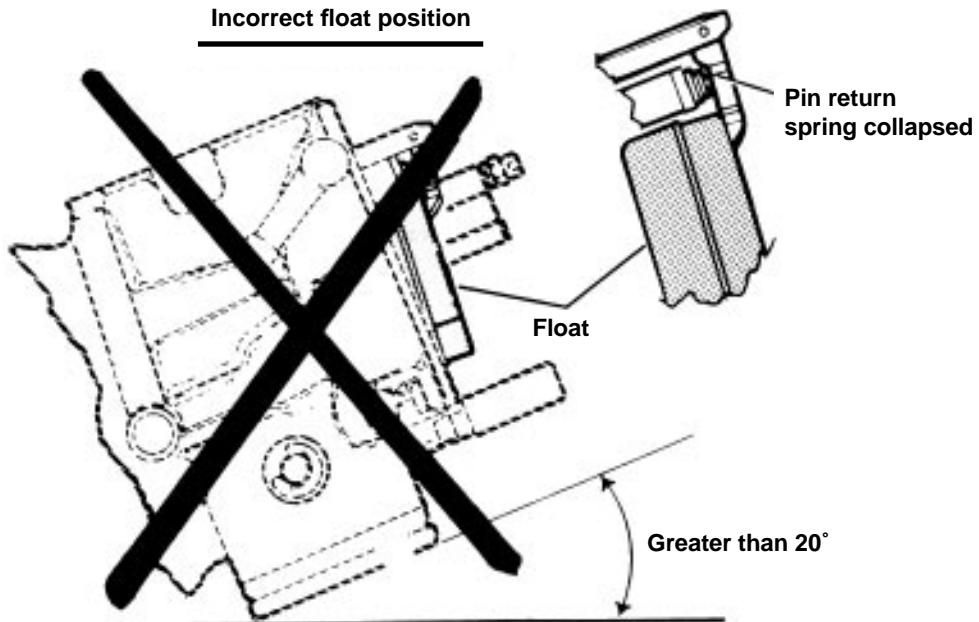

Figure 4-11. Carburetor Float Adjustment
1. Remove carburetor and place on a flat, clean surface on engine manifold side. This is the "base." Tilt carburetor counterclockwise 15° to 20° from base until float comes to rest. See Figure 4-11.